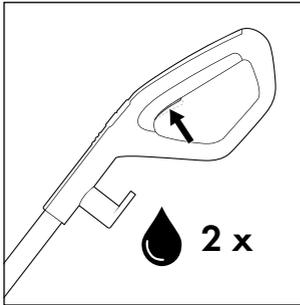
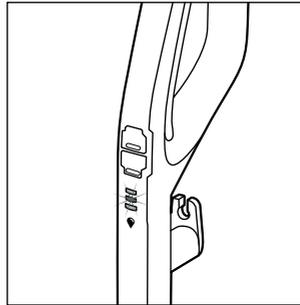

Fig. 18
Fig. 19
- ◆ Before each use, press the cleaning solution switch **15** twice briefly to add cleaning solution to the rotary brush **6** so that it is ready for use (see fig. 18). The cleaning solution display  **12** flashes alternately blue when continuous spray function is activated or the cleaning solution switch **15** is being held down (see fig. 19).